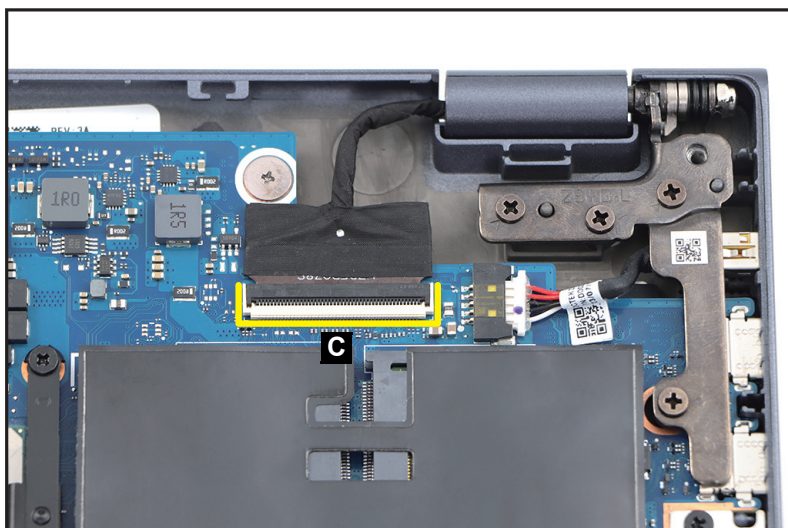

Figure 1-14. LCD Module Removal
2. Disconnect the LCD cable from the mainboard connector (B) (Figure 1-14).